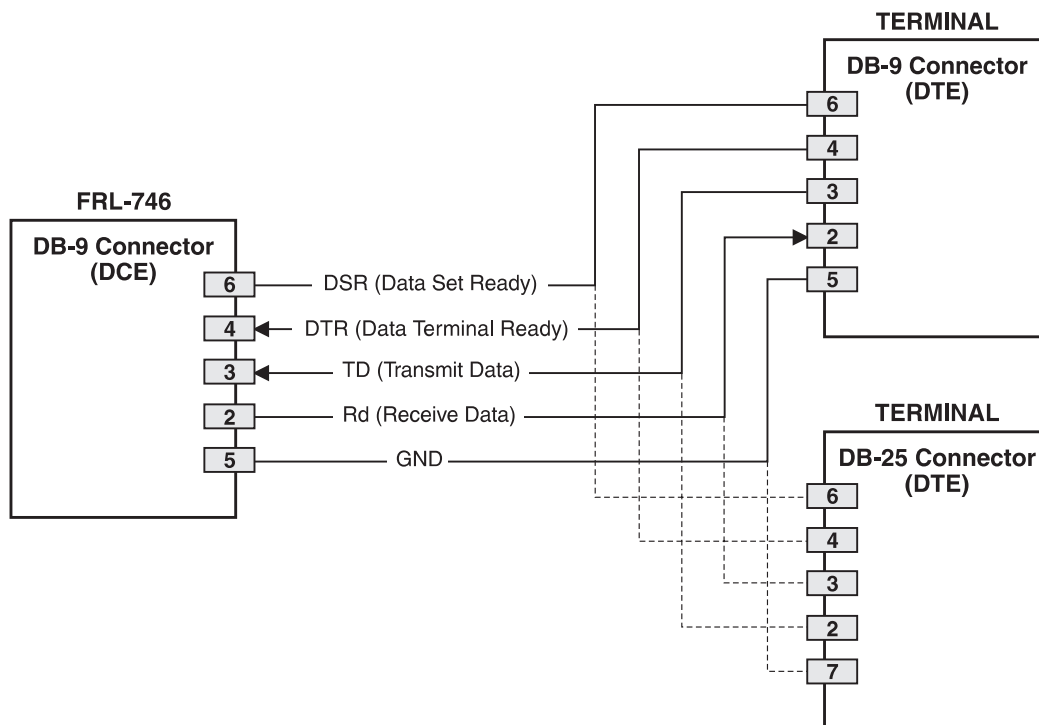

Figure 4. Connecting the FRL-746 to an ASCII Terminal
6.2 Connecting FRL-746 to a Terminal or Modem. A standard RS-232 (DB-9) connector on the front panel provides access to the menu interface feature via an ASCII terminal. Figure 4 shows the pinouts for connecting the FRL-746 RS-232 (DB-9) craft maintenance port to an ASCII terminal.